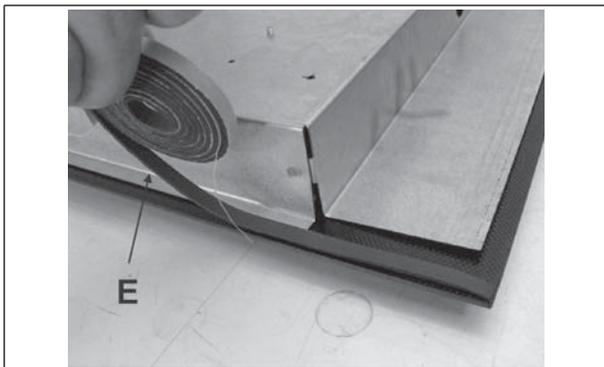

FIG. 11
- Turn the hob upside down and place the adhesive side of the seal "E" (fig. 11) correctly under the edge of the hob so that the outer edge of the seal perfectly matches the outer perimeter edge of the glass. The ends of the strips must match without overlapping.